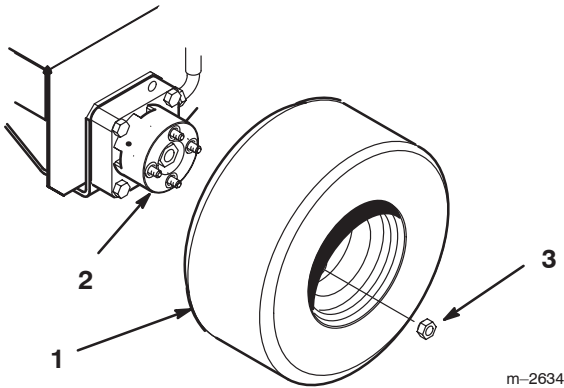

Figure 2
1. Mount wheels to wheel motor hubs with 8 lug nuts (Fig. 2). Torque bolts to 55 ft.-lb. (75 N·m).